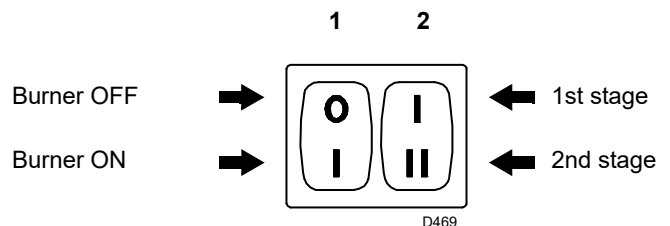
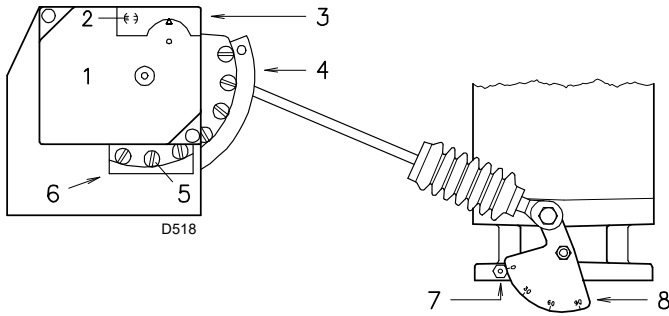

Fig. 25
Fig. 26
- switch 1)(Fig. 25) in "**BURNER ON**" position;
- switch 2)(Fig. 25) in "**1st STAGE**" position.
In the above description, we left the burner running, operating in 1st stage. Now move switch 2)(Fig. 25 on page 24) to 2nd stage position: the servomotor will open the air damper and, at the same time, the gas butterfly valve at 90°.
Progressively adjust the end profile of cam 3)(Fig. 26) by turning the screws 5).
Move the switch 2)(Fig. 25 on page 24) in “1st STAGE” position: the servomotor 1)(Fig. 26) will close the air damper and, at the same time, will also close the gas butterfly valve to 15°, i.e. to the factory setting.
- If it is necessary to increase it, pass to 2nd stage by activating switch 2)(Fig. 25 on page 24) and slightly increase the angle of the orange lever with small, regular movements, i.e. bring it from an angle of 15° to 17° - 19°...
Progressively adjust the initial profile of the cam 3)(Fig. 26) by turning the screws 4). If possible, do not turn the first screw, since this is used to set the air damper to its fully closed position.
Turn off the burner using the switch 1)(Fig. 25 on page 24) and turn the intermediate screws of the cam so that the cam tilt is progressive.